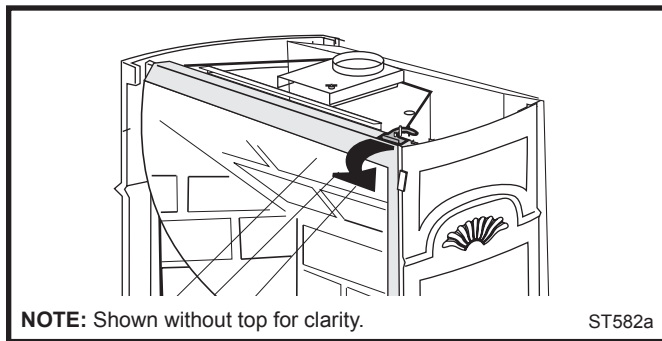

Fig. 36 Release the latches to release the glass frame.
2. Swing open the swiveling latches at the top left and right corners of the glass frame. (Page 20, Fig. 36)
Replace glass only with CFM Corporation approved parts. Refer to Page 22 for Replacement Parts. Refer to Figure 36 and previous instructions for removal of the damaged glass frame.